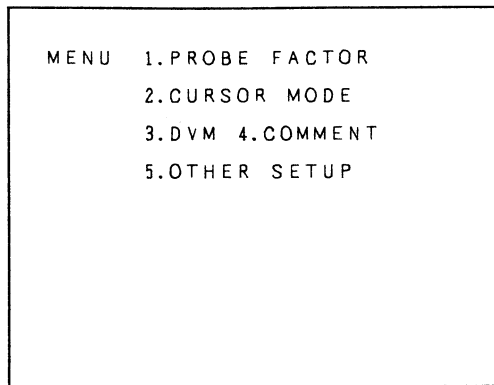

Fig. 8-9
- 1) Set the CURSOR and DLY/COUNTER to DLY/COUNTER, and press the MENU key. The menu is displayed as shown in Fig. 8-9.